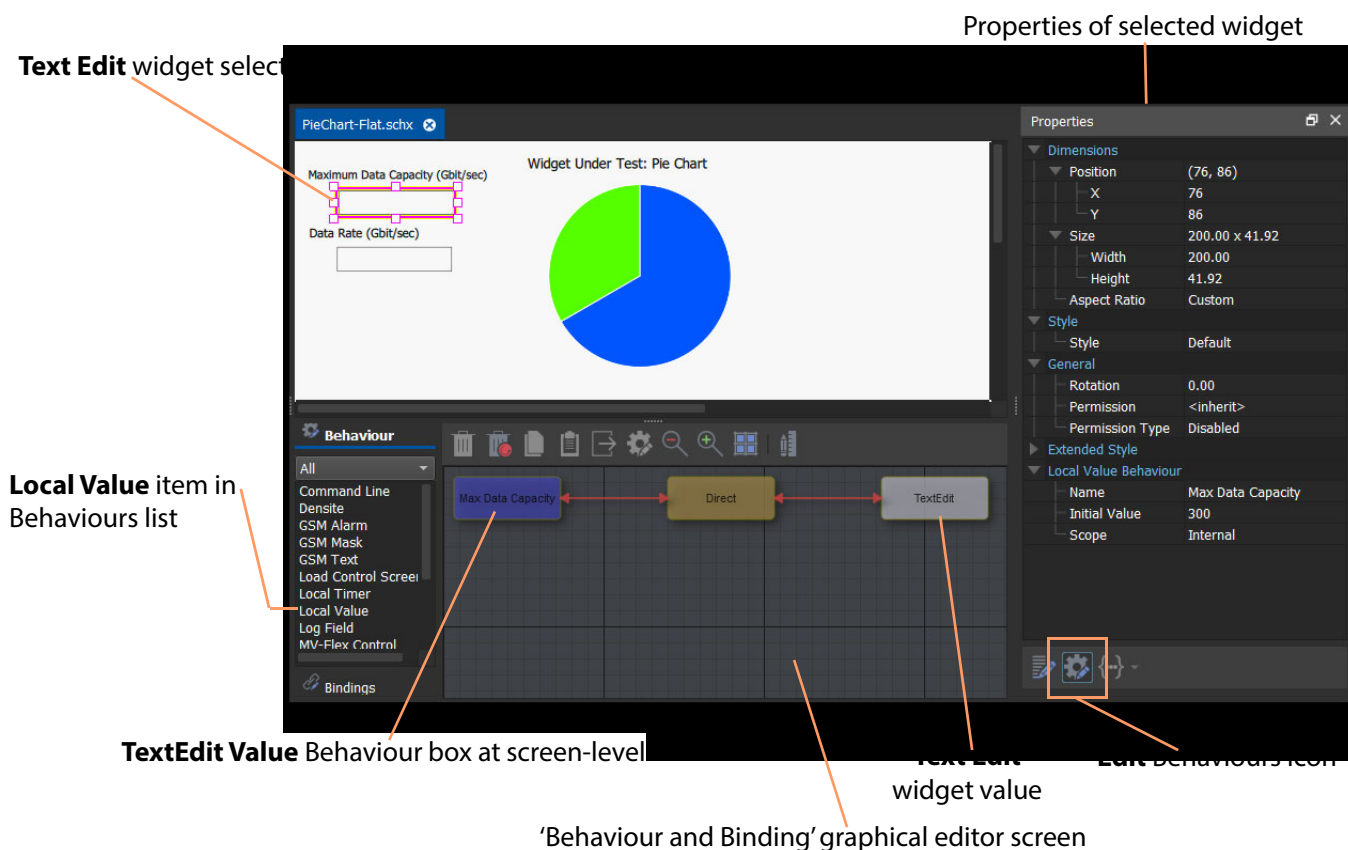

Fig. 3-7: Setting Up Behaviours
- 2 Select the first **Text Edit** widget and click the **Edit** Behaviours icon. The 'Behaviour and Binding' graphical editor is shown in the lower half of the schematic editor area. See Figure 3-7.
This places a **TextEdit Value** Behaviour box onto the graphical editor screen. See Figure 3-7.